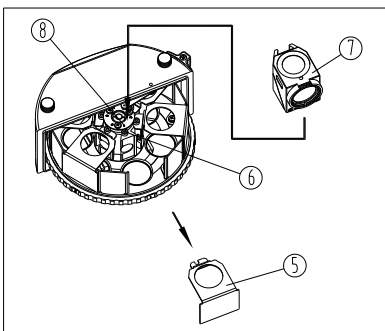

Fig.30
- (2) The blinker board ⑤ is installed in the fluorescence filter group. When using the fluorescence filter group, first loose the lock screw ⑥ with the inner hexagon spanner, and take off the blinker board ⑤. (See Fig. 30)
- (3) Put the diaphragm slice of the fluorescence filter group ⑦ which is to be assembled upward, and match the dovetail groove of the fluorescence filter group ⑦ with the dovetail wedge of the front cover group ②, and push to the bottom. Tighten the lock screw ⑥.
- (4) Check the ID ⑧ on the dovetail interface, and insert the nameplate ④ of the fluorescence filter group into the interface ③ with the same number in front of the front cover group ②.
- (5) Repeat the steps above, to assemble other fluorescence filter groups into the turntable of the front cover group ②.
- (6) Then match the dovetail wedge of the front cover group ② with the dovetail groove of the turntable epi-illuminator, and push to the bottom. Tighten the lock screw ①.